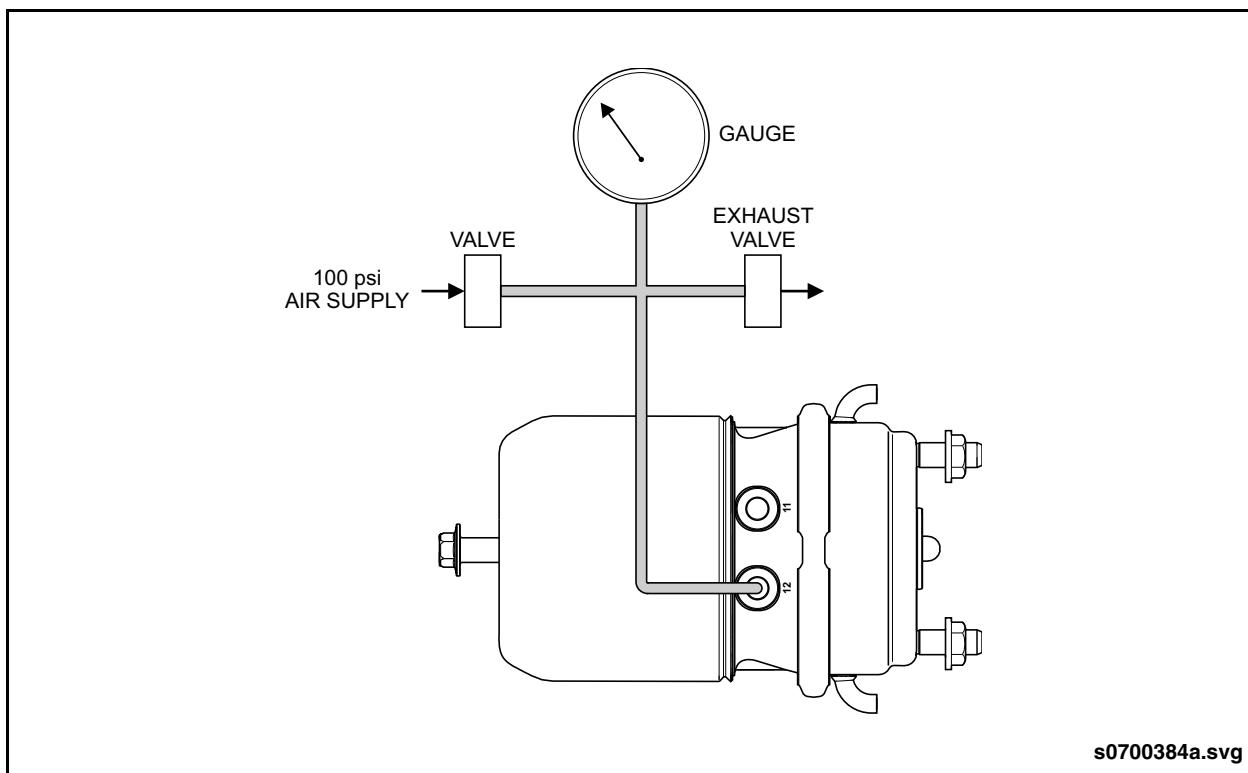

Fig. PM-36: Spring Brake Leak Test Setup
3. Connect pressure test equipment to spring brake chamber port #12. See "Fig. PM-36: Spring Brake Leak Test Setup" on page 80.